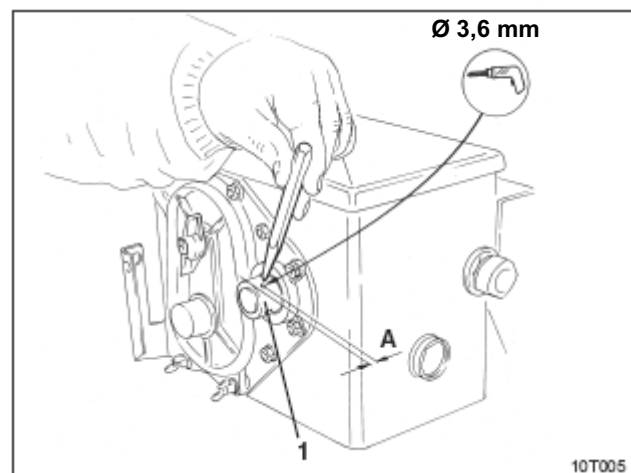

Fig. 9.2
- ☐ Using the borer provided, drill a hole (\varnothing 3.6 mm) in the hollow gearbox input shaft (Fig. 9.2/1).
Distance A (see Fig. 9.2) from edge of hollow shaft to centre of bore is **5 mm. Mark hole.**